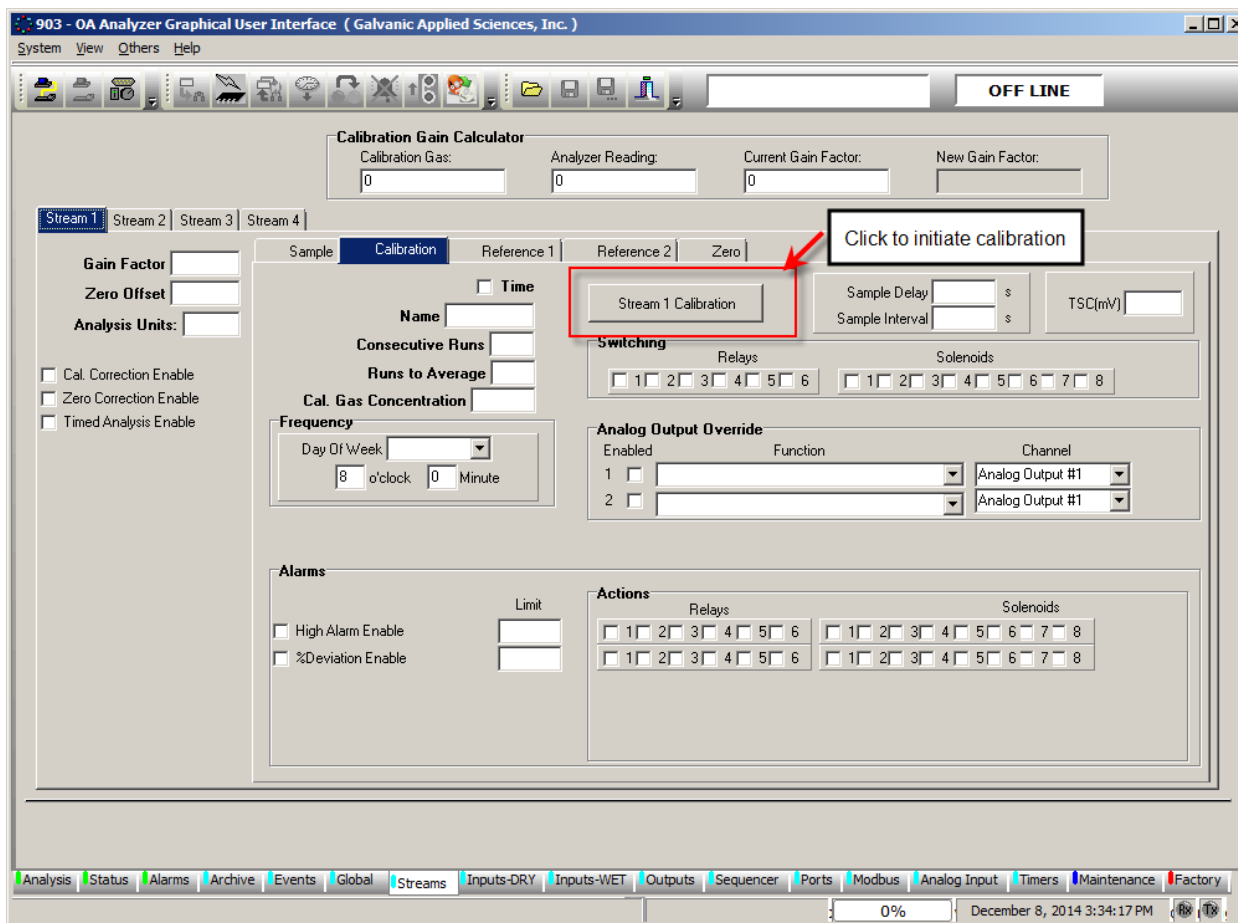

Figure 6-12: Calibration Tab
- Initiate an Auto Calibration run, either from the GUI or from the keypad. The Auto Calibration can be initiated from the GUI by pressing the *Stream 1 Calibration* button as shown in Figure 6-12. The Auto Calibration can be initiated from the keypad by selecting the stream to be calibrated, and scrolling to CAL. The CAL entry will indicate that the status is OFF. Press the EDIT key on the keypad and press the ENTER key to toggle the value to ON.